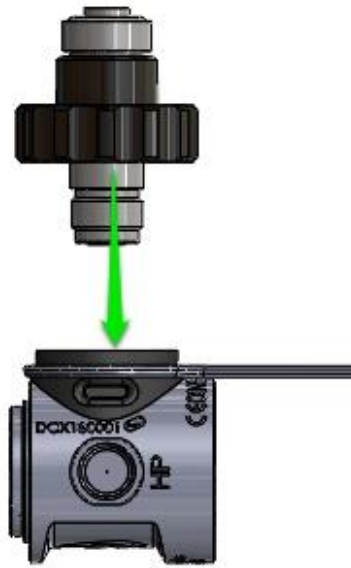

Fig. 32
- g. Lubricate the DIN Nipple 6750 threads and by hand, screw the assembly into the body 7276.8 (Fig. 32)